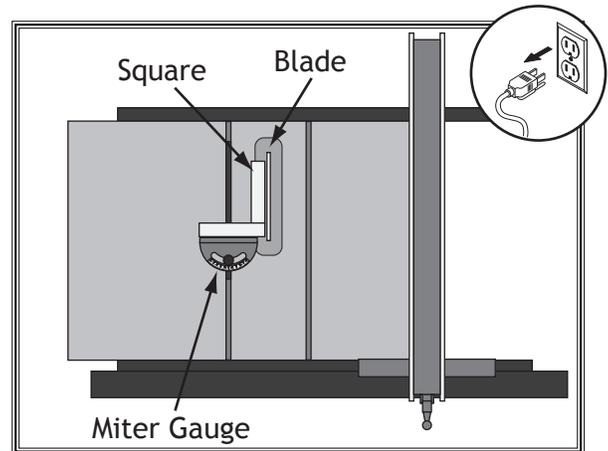

Figure 122. Checking 90° stop on miter gauge.
4. Place square evenly against face of miter gauge and blade, as shown in **Figure 122**.